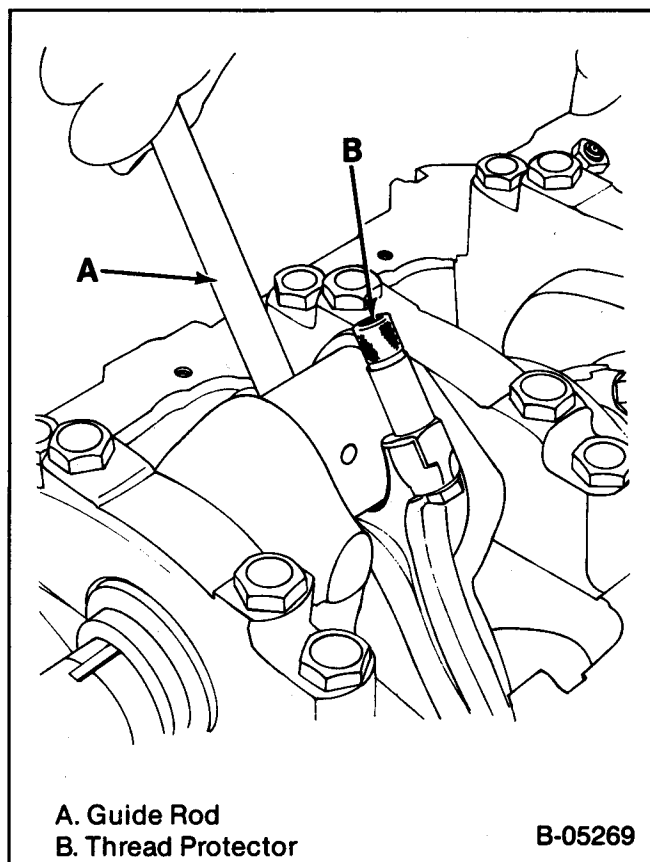
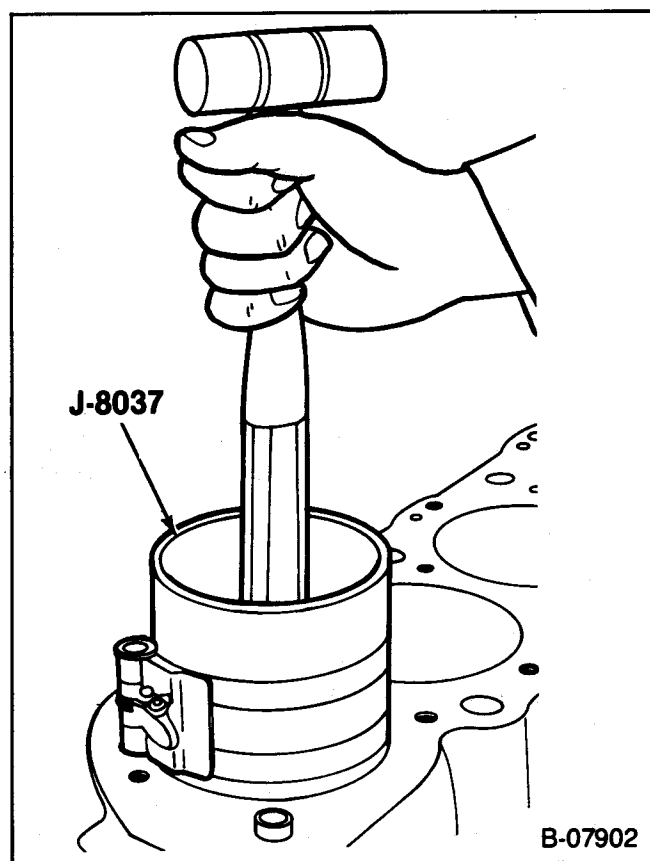

Figure 27—Replacing The Connecting Rod And Piston
Figure 29—Installing The Piston
Remove or Disconnect (Figure 27)
- Attach J-5239 to the connecting rod bolts (figure 27).
Install or Connect (Figures 27 through 31)
- Without disturbing the ring end gap location, install J-8037 over the piston (figure 29).
- Place the piston in its matching bore. Using light blows with a hammer handle, tap the piston down into its bore (figure 29). At the same time, from beneath the vehicle guide the connecting rod to the crankpin with J-5239 (figure 27). Hold the ring compressor against the block until all rings have entered the cylinder bore.